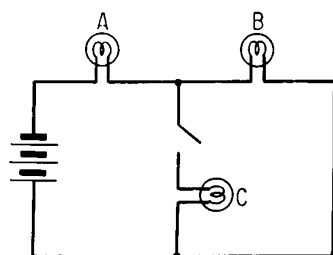

Fig. 93
93. Three identical bulbs A, B and C are connected to a battery as shown in Fig. 93. What will happen to the brightness of A and B when the switch is closed?